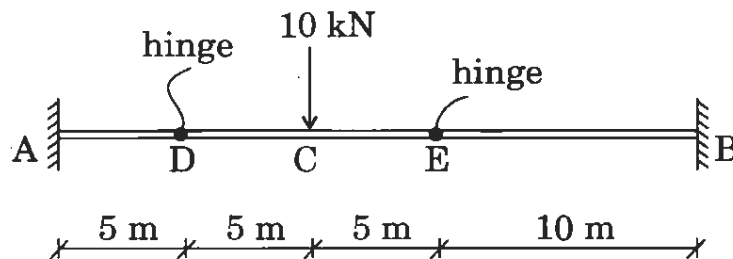

Figure 4
- Q2.** (a) Find the deflection at C for the beam as shown in Figure 4. $EI = \text{constant}$. Use conjugate beam method.